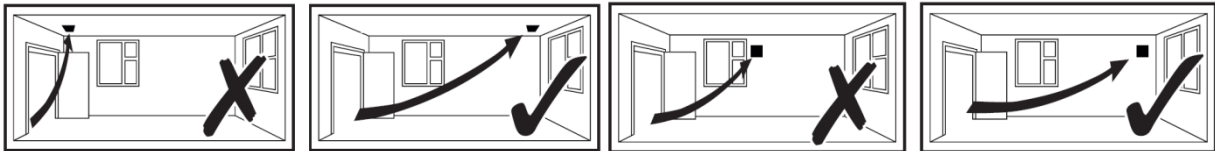

Fig.1: VASF100B, VASF100BV
1. Select and follow the appropriate wiring diagram. (Fig. 1 or 2)
Fixed Speed Range – Fig1, 2, 3, 4 & 5
Variable Speed Range – Fig1, 2, 3 & 6
Continuous Running Range – Fig1, 2, 3 & 6